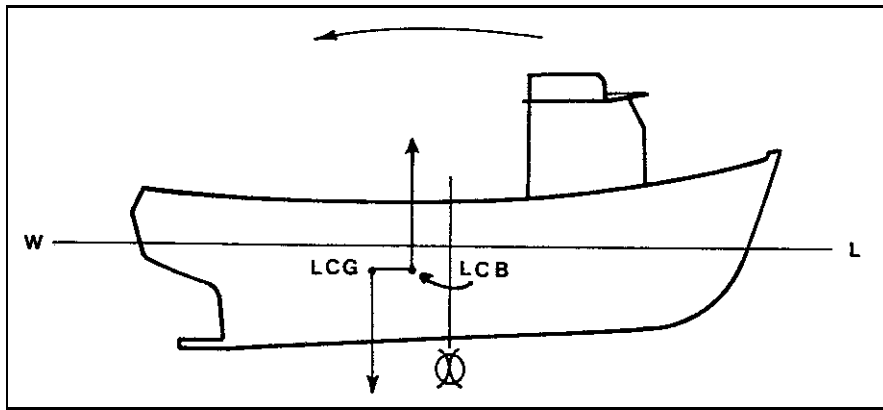

Figure 1
94. If the position of LCG and LCB are as shown in Fig. 1, then the actions of buoyancy and weight will cause the vessel to rotate as shown by the arrow. The stern will sink deeper, the bow will rise higher. As the vessel rotates, the shape of the underwater volume will change and LCB will move to the new centre.